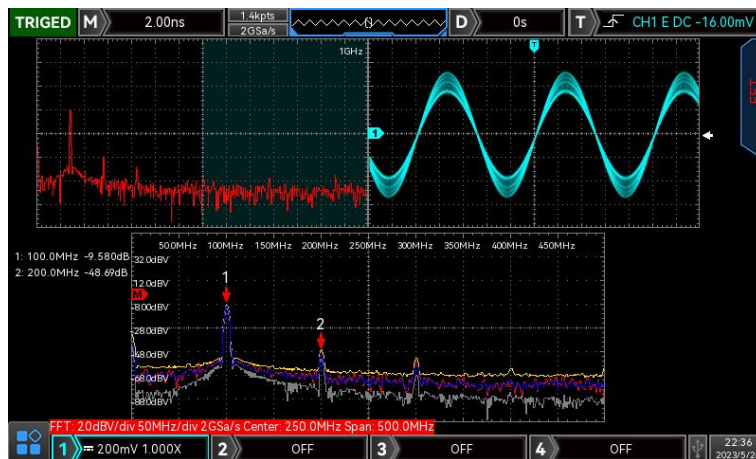

Figure 15-1
- a. Split screen: Display the source waveform and the waveform of FFT spectrum waveform in split screen, and extend display the spectrum. As shown in Figure 15-1.